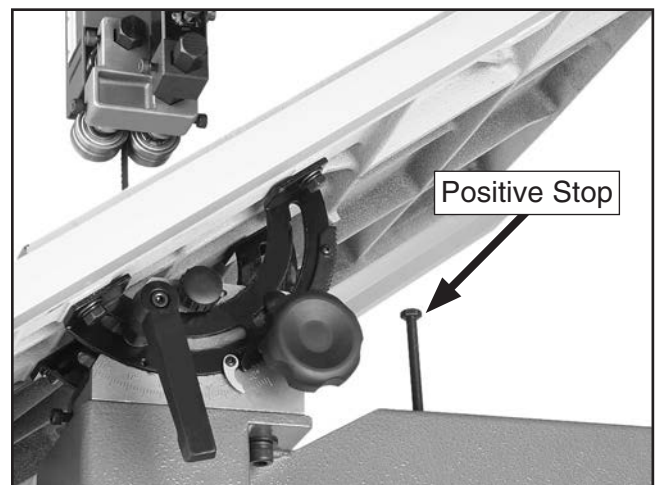

Figure 21. Positive stop bolt installed.
3. Thread the positive stop bolt into the threaded hole on bandsaw body (see **Figure 21**).